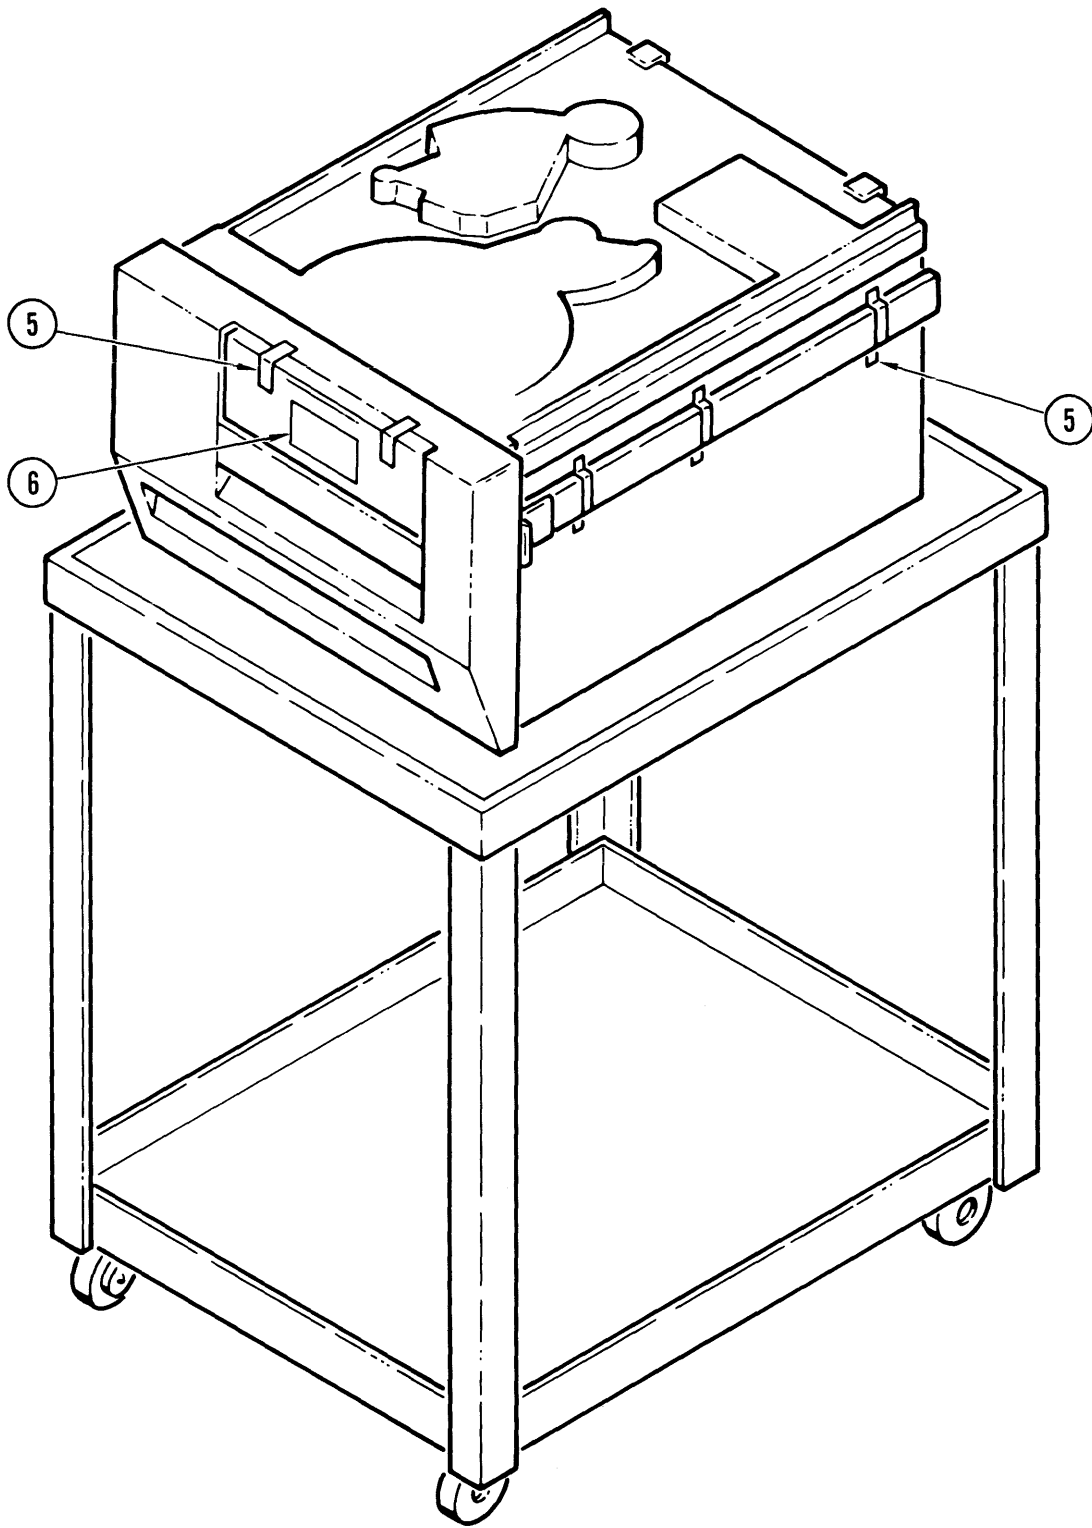

Figure 2.
14. Carefully lift the unit from the carton and put on the table. See Figure 2.
15. Remove slide and door tapes (5).
16. Remove door sticker (6).
17. Open the top cover (8) and secure it with the stay arm provided (9).